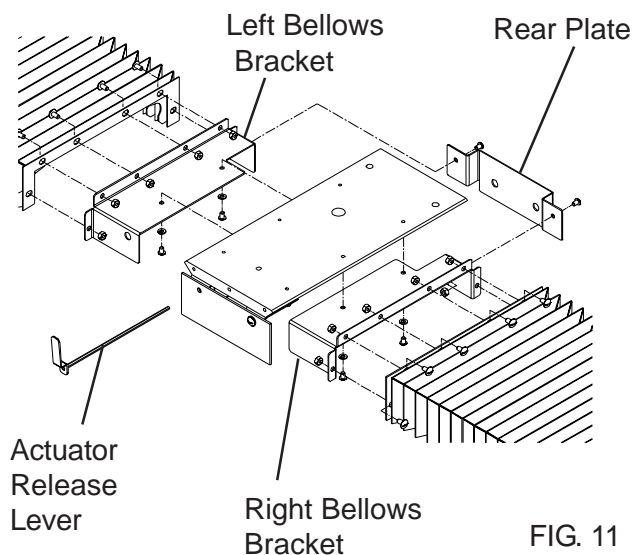

FIG. 11
5. Attach the right and left brackets to the underside of the carriage using two $1/4$ " button head screws and lockwashers on each side. (See Fig 11) Then attach the rear protective plate to the brackets just installed using two $1/4$ " screws and locknuts. Re-install the actuator release lever. Last attach the bellows to the brackets with the bolt heads on the bellows side of the brackets.